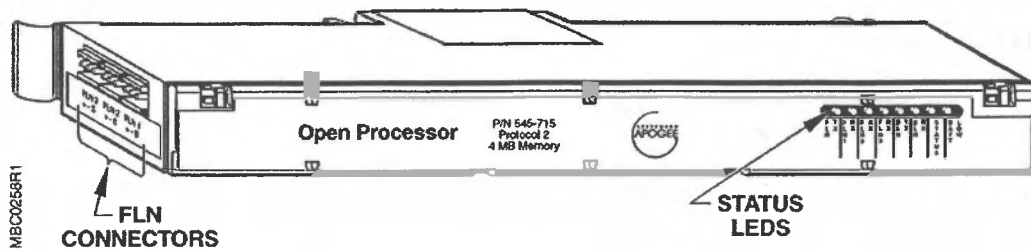

Figure 3. Front View of the Open Processor/Protocol 2.
11. Remove the pre-wired FLN connectors from the temporary cover and plug them into the corresponding ports on the left side of the Power Open Processor/Open Processor. These ports are labeled FLN 1, FLN 2, and FLN 3 (see Figure 3). The screws for the connector should be pointing down.